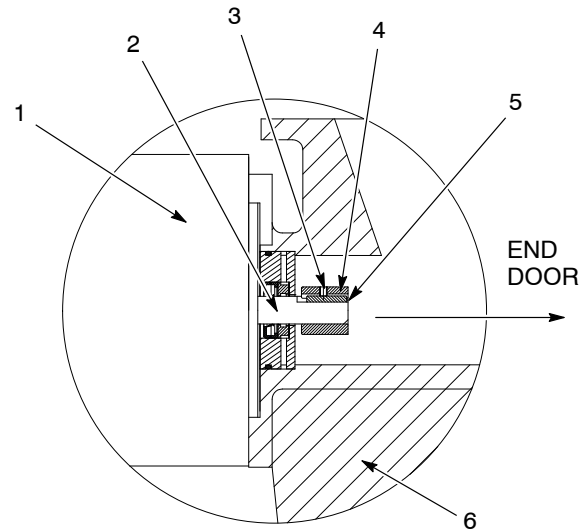

Figure 2 NRPS-100 Rotary Sieve Housing with a Male Hex Adapter (Section view shown with rotor removed)
6. See Figure 2. Look inside the sieve housing and determine if the sieve has a male hex adapter (4) installed on the motor shaft (2) end.